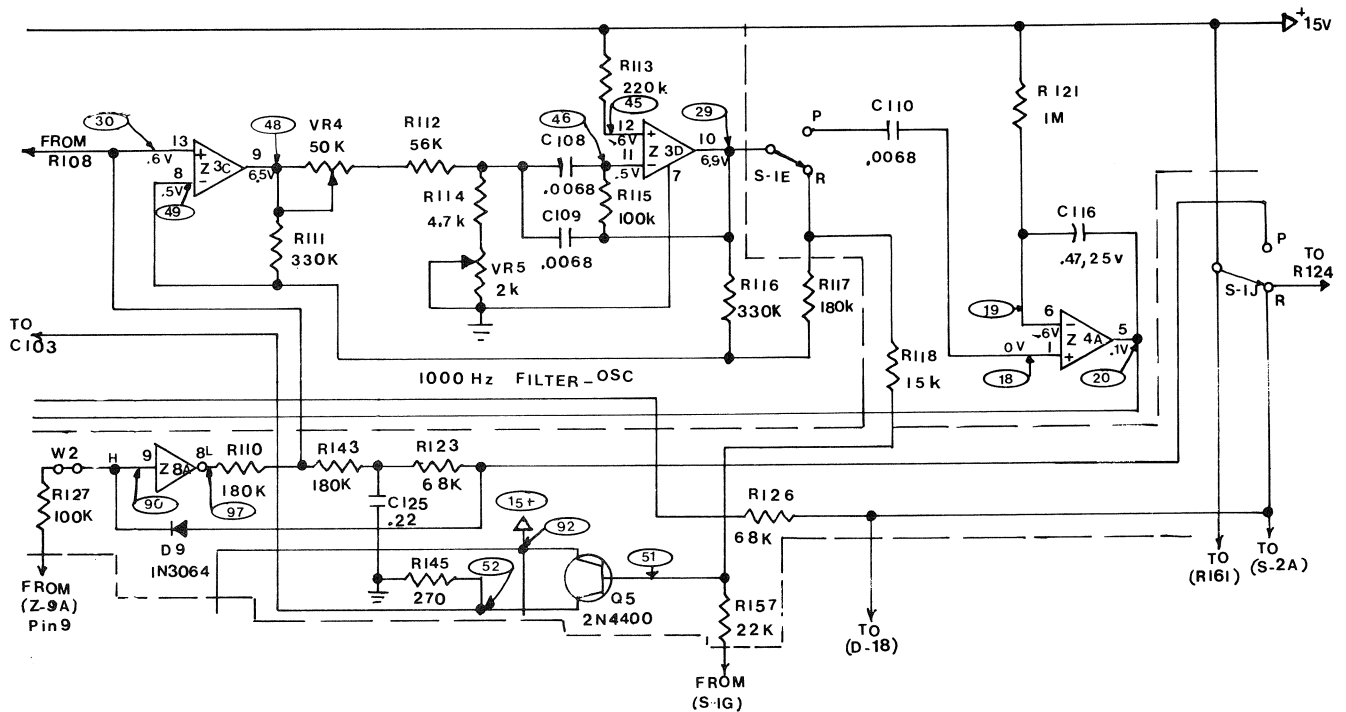

Figure 4-39. 1000 Hz Oscillator
The 1000 Hz Advance Cue Pulses are generated in the 1000 Hz filter-oscillator (Z-3C) and (Z-3D). This circuit is conditioned to be an oscillator by (S-1E) section of the record switch when the record button is depressed and the contact moves from the (P) position to the (R) position. (Figure 4-39).
The Stop/Restart button (S-1) is what initiates the action which results in Stop pulses being recorded on the tape. Since this is the case, the tape drive control circuit must be disabled in the record mode so the tape deck motor won't stop each time the Stop/Restart button (S-1) is depressed to record a Stop Pulse. This is accomplished by connecting the +15 supply voltage through the (SIJ) (R) contact of the Record switch and diode (D-18) to Pins 12 and 8 of (Z-5A) and (Z-5B) respectively. (Figure 4-39). This continuous logic high overrides the Stop/Restart Pulses which are normally applied there when the Stop/Restart button is depressed.
The basic difference in the Advance Cue Detection Circuit is found in the logic circuit which conditions the 1000 Hz filter-oscillator (Z-3C) and (Z-3D) in the playback and record models. In the Caramate 3350 models this conditioning is done by inverter (Z-8A) (Figure 4-39) while it is accomplished by a NOR GATE (Z-5A) in the Caramate 3340 Models, (Figure 4-42).